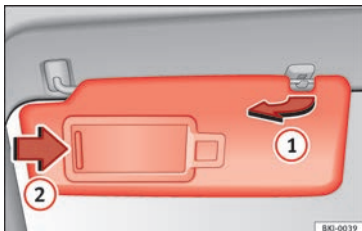

Fig. 147 Sun visor on the driver side.
- The sun visor can be pulled out of its mounting and turned towards the door » Fig. 147 ①.